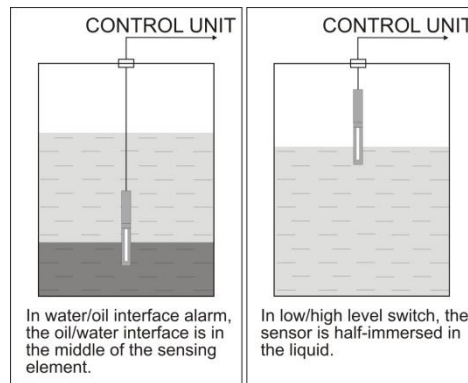

Fig. 4. Adjusting the switching point
1. Immerse the sensor into the liquid to be measured so that the sensing element of SET/TSH(S)2-O/V sensor is half-immersed in the liquid (the teflon coated rod acts as the sensing element) as in fig. 4.